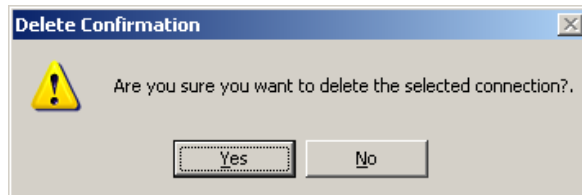

Figure 1.7 – Delete Confirmation Dialog
2. Click the **Delete** button: This will show the dialog shown in Figure 1.7.